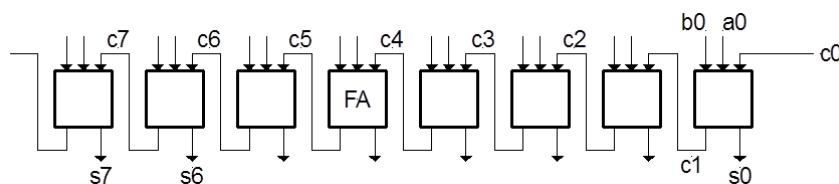

Figure 2: An 8-bit Ripple Carry Adder using FAs
The ripple-carry adder, which is going to be implemented, is designed as a chain of Full Adders (FA), as is depicted in Figure 2. Each FA has three **inputs** (c_i , a , b) and two **outputs** (c_{i+1} , s), as presented in Figure 2. The third input (c_i) is the carry-in and is generated by a previous full adder. Draw the **data-flow** diagram of a FA, based on the truth table of Table 1. You first need to write down the Boolean expressions that describe the functionality of the FA. Then write the VHDL for the FA in a file with name FA.vhdl.